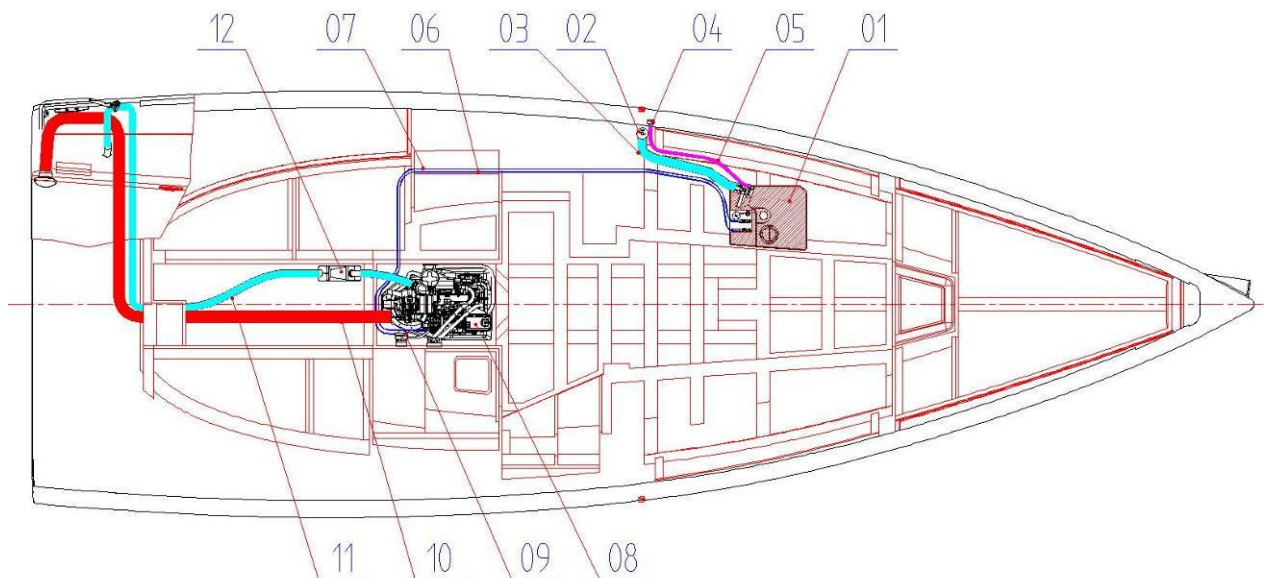

Figure 8
The fuel required for engine operation is stored in a fuel tank. The fuel tank has a capacity of 45 liters. The fuel tank is stowed under the port side saloon seat (see Fig. 8). Fuel tank is accessed from saloon by lifting the seat panels.
- Fill the fuel tank with diesel via the deck filler. The position of the deck filler is shown in Fig.8